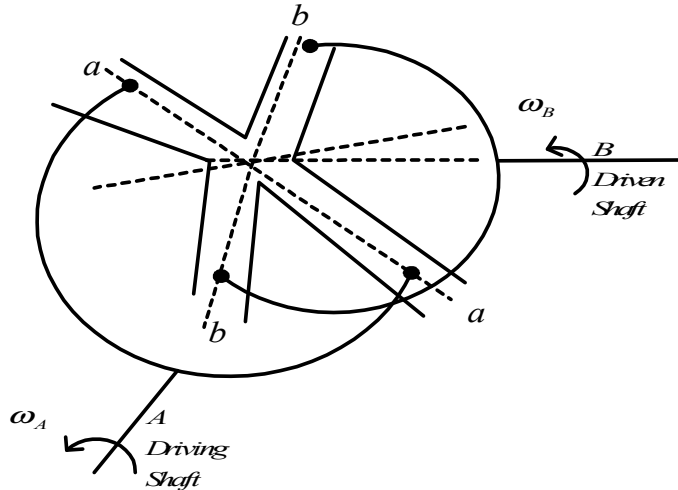

Fig. Q.3(a)
- (ii) For the single Hooke's joint shown in Figure Q.3(a) show that the ratio of the angular speed of the output shaft ω_B to that of the input shaft, ω_A , is given